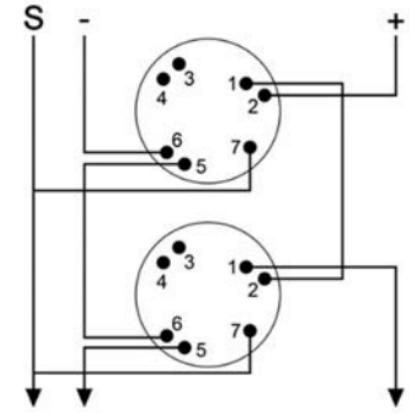

fig 4
- ❑ For proper wiring supervision ensure that the cables are wired as shown in fig 4.
Fix the mounting base to the required surface using appropriate fixings. For correct wiring of mounting base refer to fig. 4.
Please refer to fig. 4 for wiring the Red Standard Mounting Base (YBO-R/3(RED)) and the Red Short-Circuit Isolator Mounting Base (YBO-R/SCI(RED)):